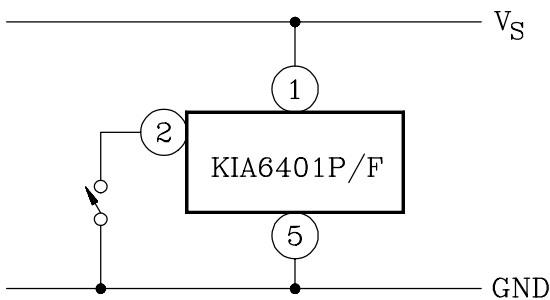

Fig. 1a
When the KIA6401P/F is oscillating ($V_{sus} < V_s$), if PIN② is connected to GND as shown in Fig. 1a, the KIA6401P/F can stop oscillating. Further, the oscillation of the KIA6401P/F can be stopped by connecting PIN② to voltage V_I through the resistor R_I as shown in Fig. 1b.